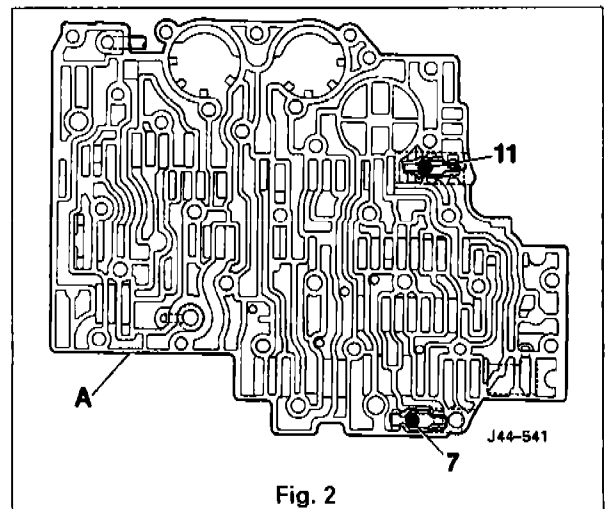

Fig. 2
- Refit valve body and accumulator assembly to transmission, see sub-section 1.7.3 (this manual); ensure that the nine checkballs are correctly located, see Figs. 2 and 3.